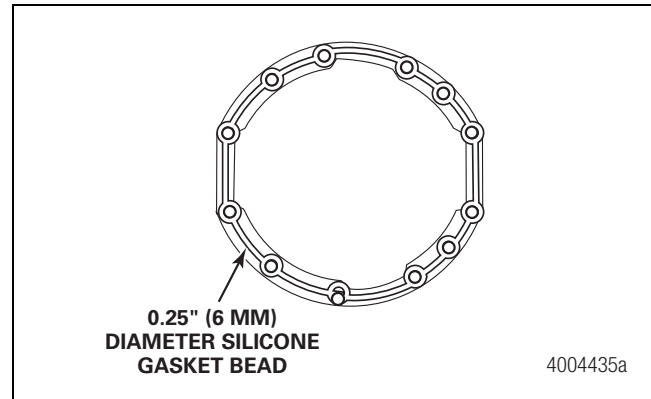

Figure 4.9
10. Apply a 0.25-inch (6 mm) bead of Loctite® 5699 silicone gasket material to the housing face. Do not use ThreeBond 1216E silicone products. Figure 4.9.